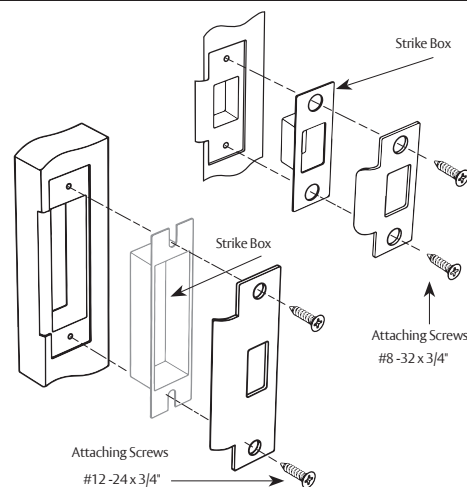

Figure 3
4. Install the strike (See Figure 3).